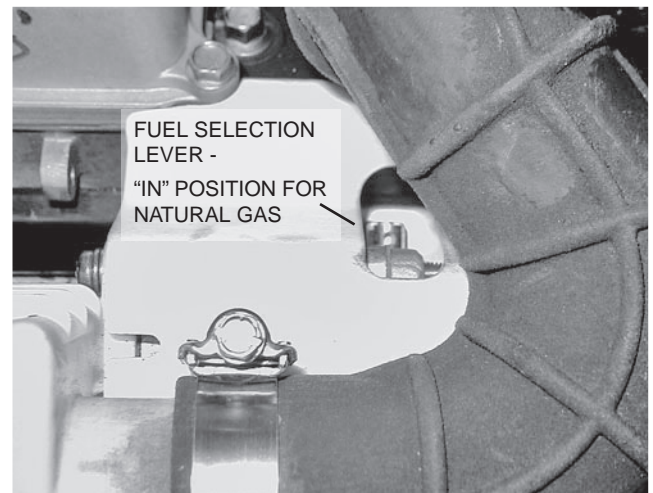

Figure 10. 10kW, GT-530 (Inlet Hose Slid Back)
- Slide fuel selector on carburetor out towards the back of the enclosure (Figures 10 and 11).